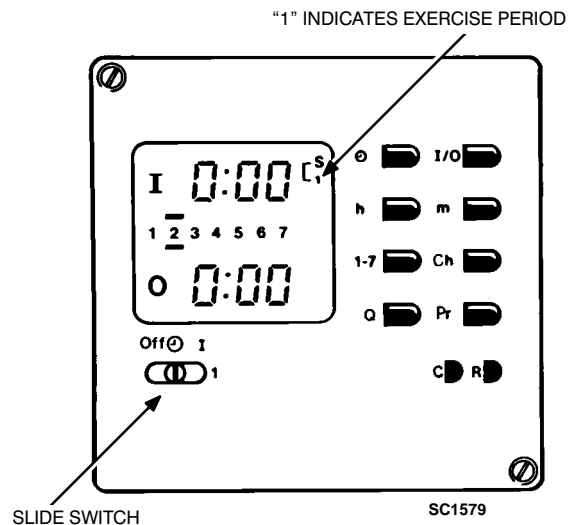

FIGURE 4-1. EXERCISER CLOCK
3. Check the exerciser clock to see if it is in an exercise period. When the exerciser clock is in an exercise period, a "1" appears in the upper right-hand corner of the display window (Figure 4-1). You can view the
display by looking through the transparent clock cover. Check that the red slide switch is in the center position (Figure 4-1).
2. Check the exerciser to see if it is in an exercise period. When the exerciser clock is in an exercise period, a "1" appears in the upper right-hand corner of the display window (Figure 4-1). You can view the display by looking through the transparent clock cover. Check that the red slide switch is in the center position (Figure 4-1).